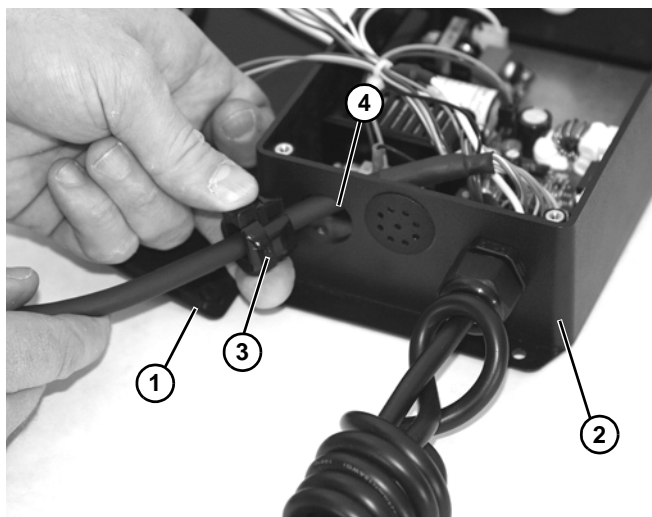

Figure 9
2. Remove four screws and cover (Figure 9, item 1) from controller (Figure 9, item 2).
3. Pull out cord retainer (Figure 9, item 3) from controller opening (Figure 9, item 4).